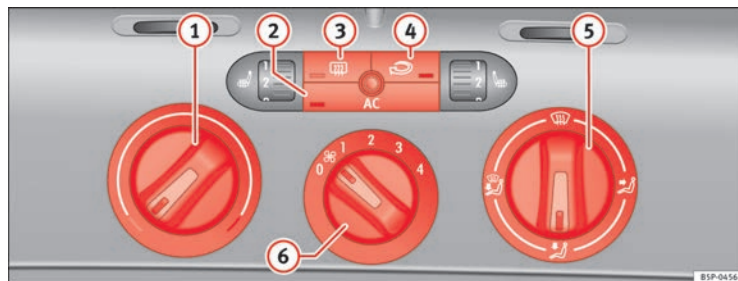

Fig. 129 On the dash panel: Climatic controls
- Using the knobs ⇒ fig. 129 ① and ⑤ and knob ⑥ you can set the temperature, air distribution and blower speed.
- To switch a function on or off, press the appropriate button ②, ③ or ④. When the function is activated, the display window in the lower corner of the button is lit.
- ① Temperature selector ⇒ page 163
- ② AC button – Air conditioning system on/off ⇒ page 163
- ③ button – Heated rear window The heating will be switched off automatically approximately 20 minutes after switching on. It can also be switched off beforehand by pushing the button.
- ④ Button – Air recirculation mode ⇒ page 164
- ⑤ Air distribution control ⇒ page 163
- ⑥ Blower switch. There are four speed settings for the air flow. The air flow should always be set at the lowest speed when driving slowly.
- Switch on the air conditioner using the button ⇒ page 162, fig. 129 (AC).